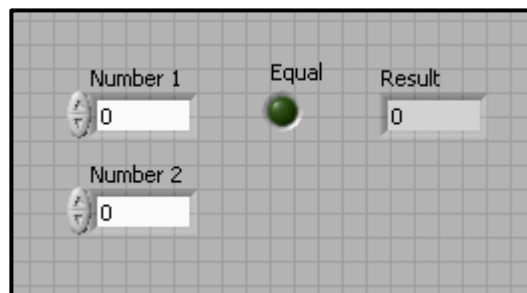

Figure 101. Front panel of example VI.
2. Start building the VI by inserting controllers (inputs) and indicators (outputs) in the Front Panel. Modular-X accepts **numeric**, **Boolean** (see correct action below) and **string** inputs and outputs with the custom VI's. In the following example “Number 1” and “Number 2” are inputs, “Equal” is a Boolean indicator output and “Result” is a numeric result output of the operation. [Figure 101]